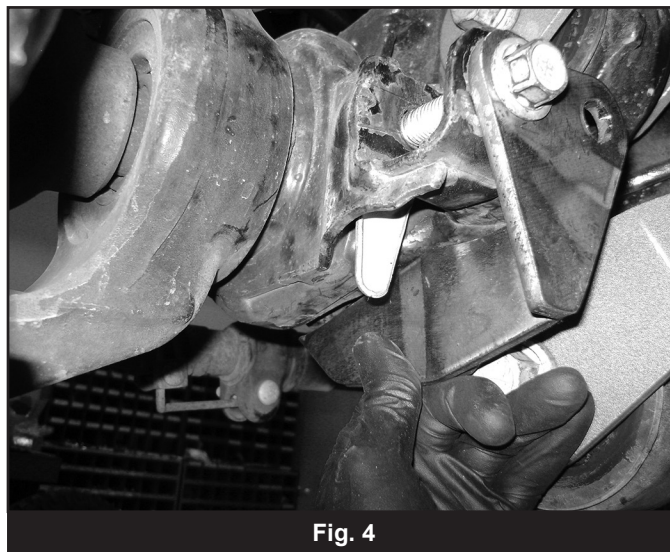

Fig. 4
12. Install lower bracket with the factory bolt on the backside of the lower shock mount (Fig 4). Loosely tighten the bolt (do not over compress the pocket).